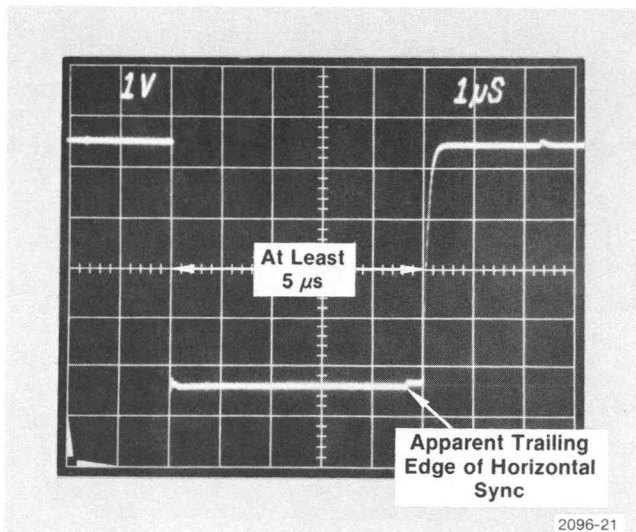

Fig. 6-4. Waveform at the connector pins of Jumper P324 when P324 is set to the Sound.in.Sync position.
b. Set the Sound-in-Sync Jumper, P324, to the Sound-in-Sync position as shown in Fig. 4-2. Connect the oscilloscope probe to one of the pins jumpered by P324. Display the negative-going horizontal line rate pulse (see Fig. 6-4).
d. CHECK/ADJUST—Sync Separator Cal R315 so the duration of the negative-going pulse displayed on the oscilloscope extends just beyond the apparent trailing edge of horizontal sync as pointed out in Fig. 6-4. Since horizontal sync has a nominal duration of $4.8 \mu\text{s}$, R315 should be adjusted to obtain a pulse duration of at least $5 \mu\text{s}$ but no greater than $5.2 \mu\text{s}$ when measured between the 50% amplitude points.